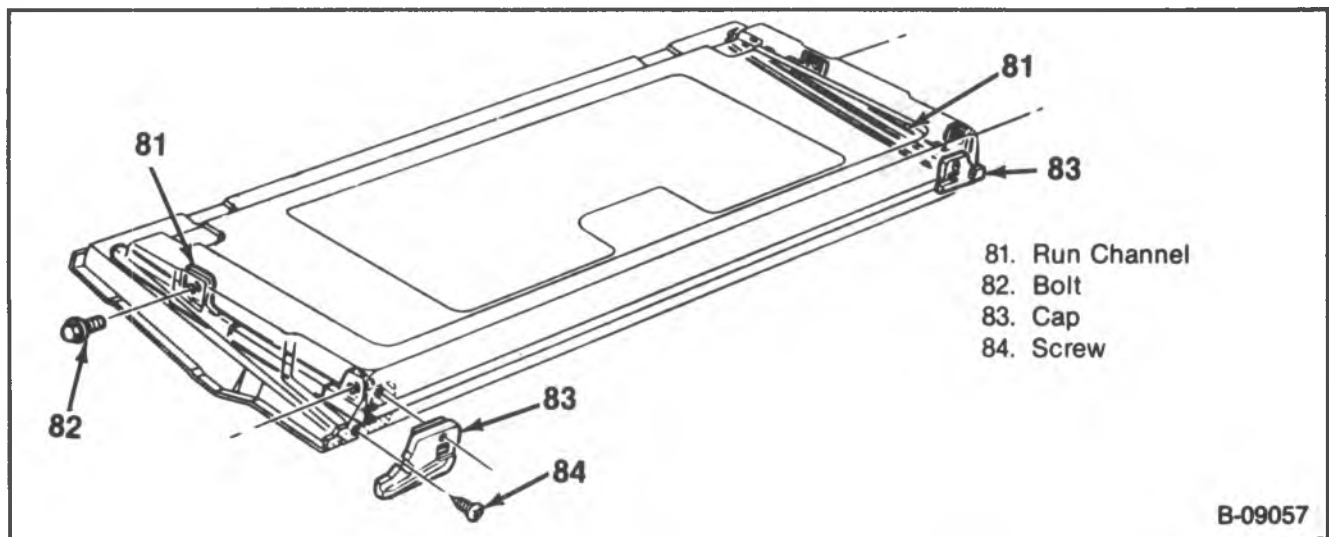

Figure 12 — Run Channel Components
1. Window run channel caps (83) (figure 12).
- Regulate the window so that the sash channel bolts (72) are accessible.
4. Sash (73) to sash channel bolts (72).
5. Sash (73) with glass (75) from the end gate.
6. Sash rails (71) from the regulator (69).
1. Sash rails (71) to the regulator (69).
2. Sash (73) with glass (75) to the end gate.
3. Sash (73) to sash channel bolts (72).
6. Window run channel caps (83) (figure 12).
↔ Remove or Disconnect (Figure 12)
↔ Install or Connect (Figure 12)